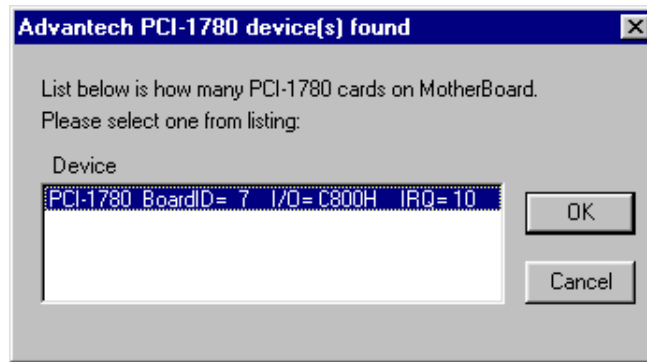

Fig. 2-5 The "Device(s) Found" dialog box
Step 3: Scroll down the *Supported Devices* box to find the device that you wish to install, then click the **Add...** button to evoke the *Existing unconfigured PCI-1780* dialog box such as one shown in Fig. 2-5. The *Existing unconfigured PCI-1780* dialog box lists all the installed devices on your system. Select the device you want to configure from the list box and press the **OK** button.